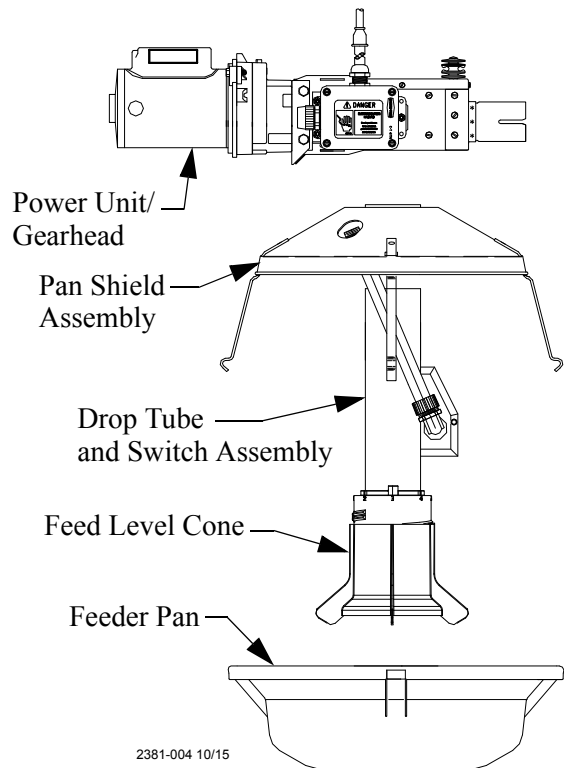

Figure 35. Drop Tube and Switch Assembly
5. Insert the drop tube and switch assembly through the pan shield from the bottom, see **figure 35**. The hole in the pan shield should be located on the same side of the drop tube as the switch cord and directly under the white box on the body assembly. Bolt the drop tube to the body assembly. The switch on the drop tube should be mounted opposite the power unit.